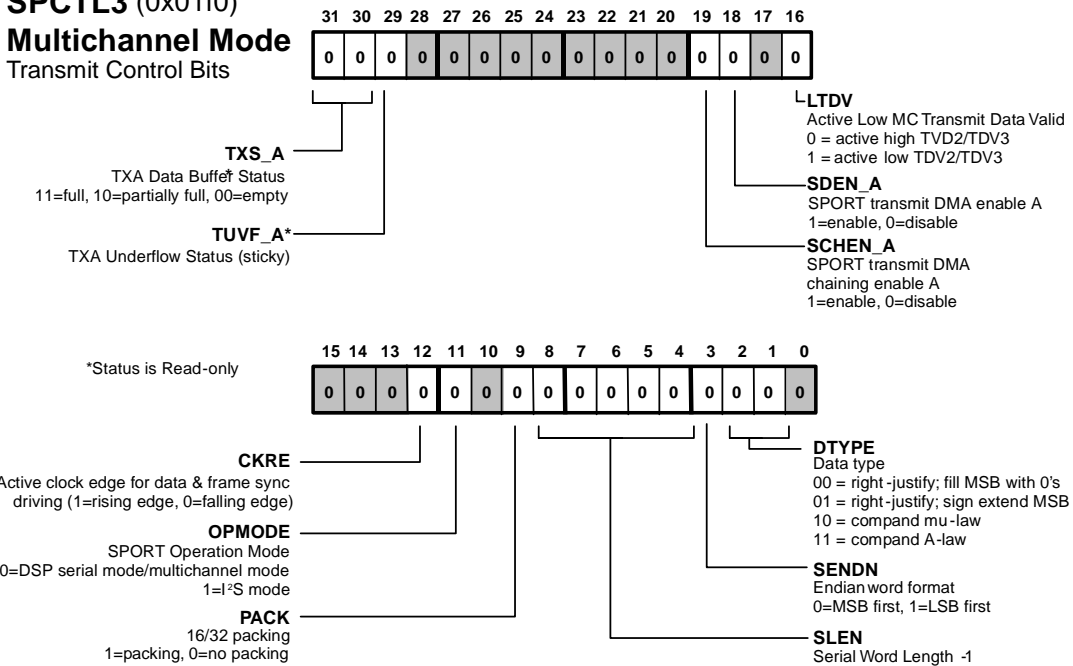

Figure A-34. SPCTL2 and SPCTL3 Registers
- Figure A-34 on page A-124 provides bit definitions for SPORTS 2 and 3 (transmit) in multichannel mode.